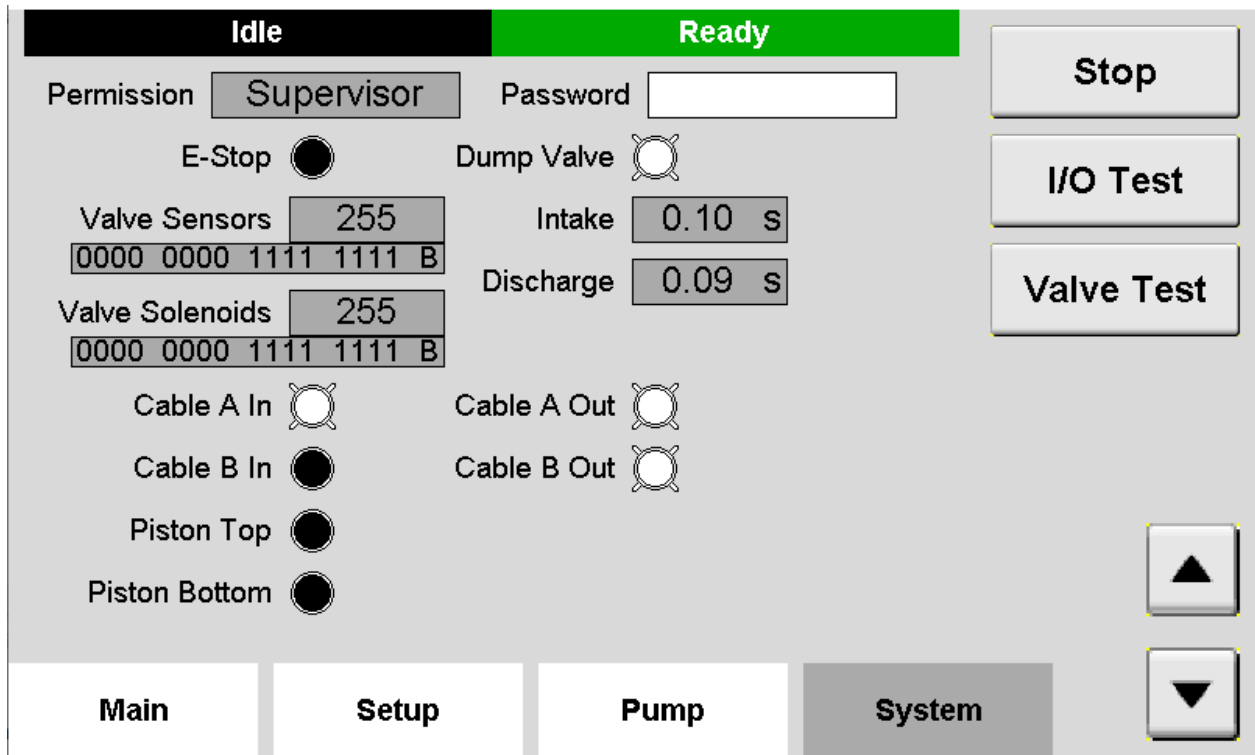

Figure 3.11 Hardware Screen
3.2.5.10 Hardware Screen (Figure 3.11)